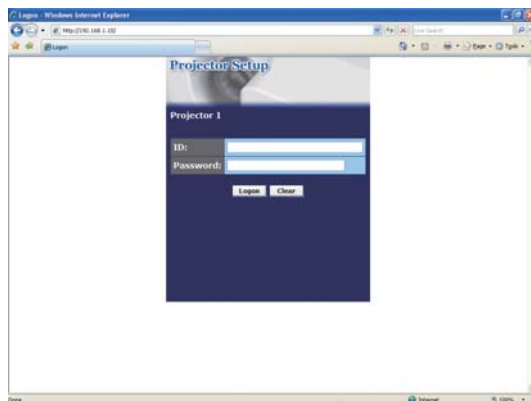

Fig. 2.3.4 “Lagon menu”
2) If Fig. 2.3.4 appears, it succeeds.